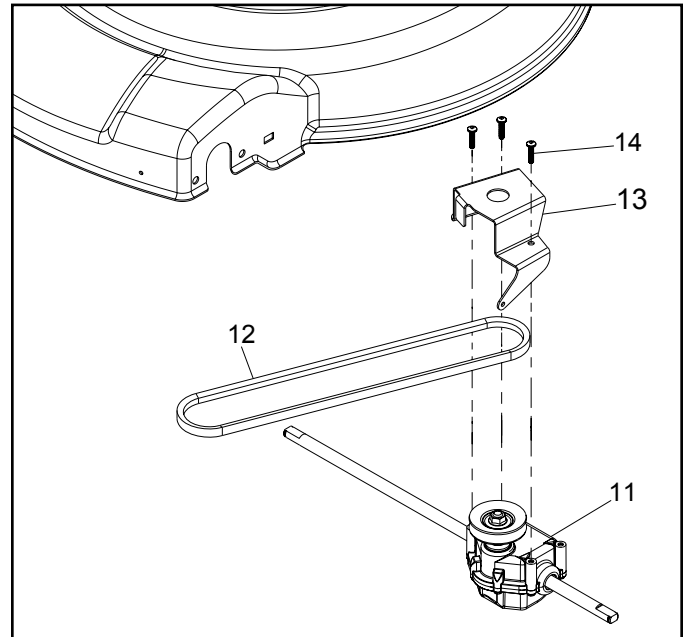

Fig. 142
- Rotate the transmission forward enough to remove the (3) screws (#14) holding the belt guide (#13) to the top of the transmission (#11). Remove belt guide (Fig. 142).